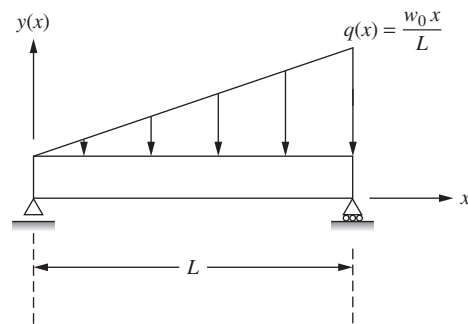

Figure P8.31 A simply supported beam for problem P8-31.
- 8-31.** A simply supported beam of length L and flexural rigidity EI is subjected to a linearly distributed load of intensity w_o , as shown in Fig. P8.31. The deflection $y(x)$ is given by